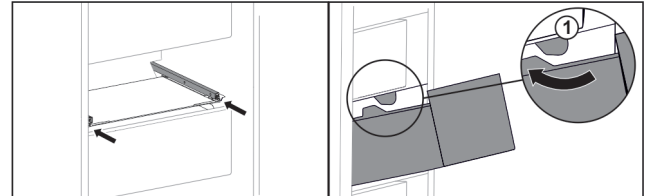

Fig. 139
- Guide drawer around the stoppers Fig. 139 (1).